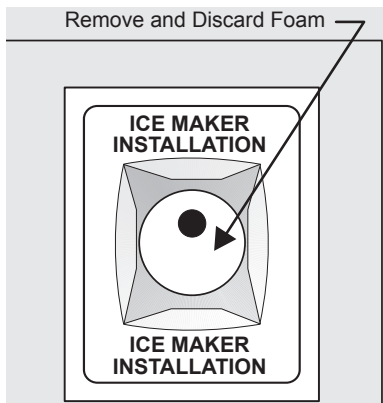

Figure 14
15. If necessary, remove any foam from within the access hole with needle nose pliers. See Figure 14.